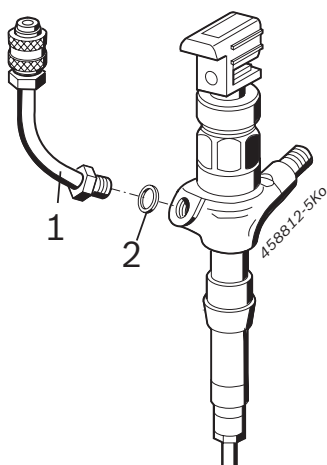

Fig. 2: Hose line
1. Screw hose line 1 680 712 368 (fig. 2, item 1) with flat sealing ring (fig. 2, item 2) into the return hole on the DENSO CRI Piezo and tighten.